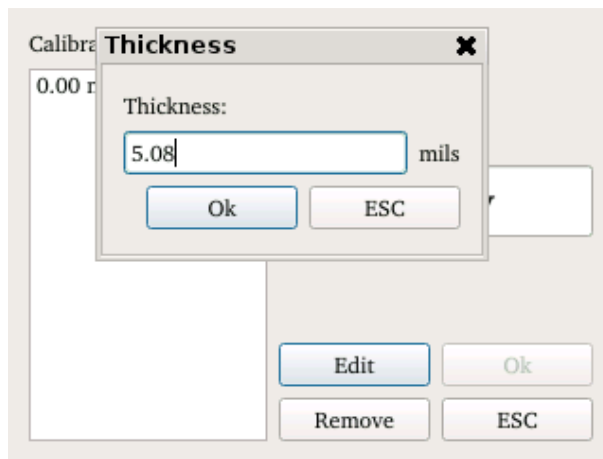

Figure 14: Foil thickness
- Place the calibration foil on the substrate. Press the measurement button on the hand-held module. After measuring write the foil thickness into the field “Thickness”, see Figure 14.